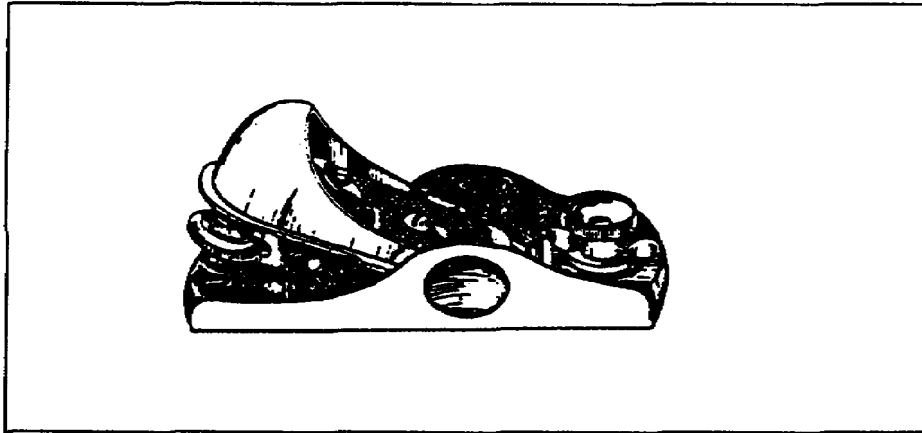

Figure 2-26. Block plane
(2) Block Plane. This is the smallest plane (Figure 2-26). It varies in length from 3 1/2 to 7 1/2 inches and can be used easily with one hand. Primarily, it is used for planing end grain or across the grain of wood. No chip breaker is needed to break the shavings because there are no shavings when planing across the grain.